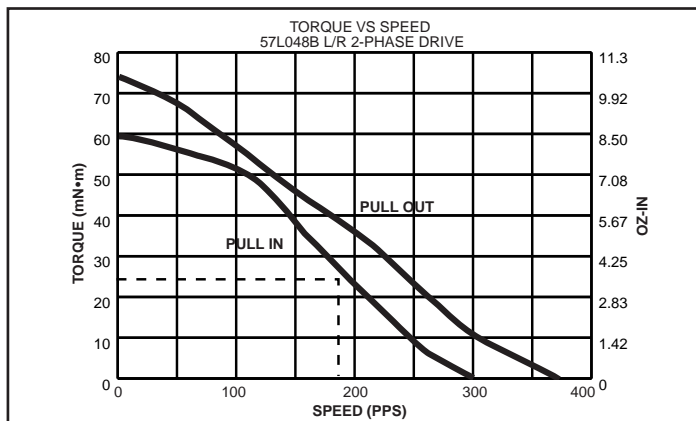

Figure 6: Torque/Speed — Frictional Load.
2. Referring to Fig. 6, the maximum **PULL IN** error rate with a torque of 25 mN•m is 185 steps/sec. (It is assumed no acceleration control is provided.)